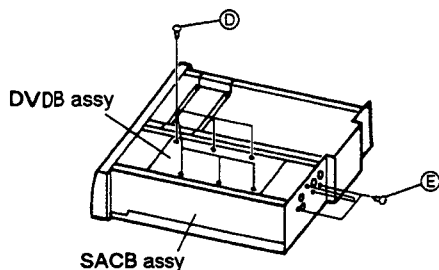

Fig. 8
4. Remove the six screws ④ stabilize the DVDB assy. (Fig. 8)
5. Remove the four screws ⑤ on the rear panel. (Fig. 8)